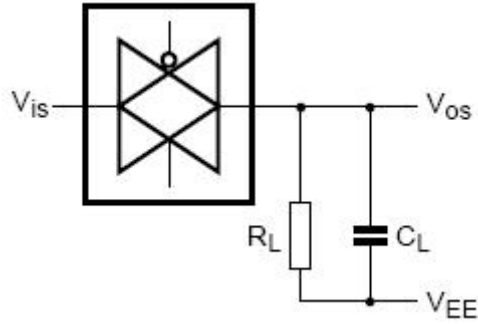

图7、方波失真度、关断频率和导通频率测试图
- $R_L = 1\text{ k}\Omega$ ;  $C_L = 5\text{pF}$ , 通道关断,  $20\log V_{os}/V_{is} = -50\text{dB}$ , 见图7
- $R_L = 1\text{ k}\Omega$ ;  $C_L = 5\text{pF}$ , 通道开,  $20\log V_{os}/V_{is} = -3\text{dB}$ , 见图7